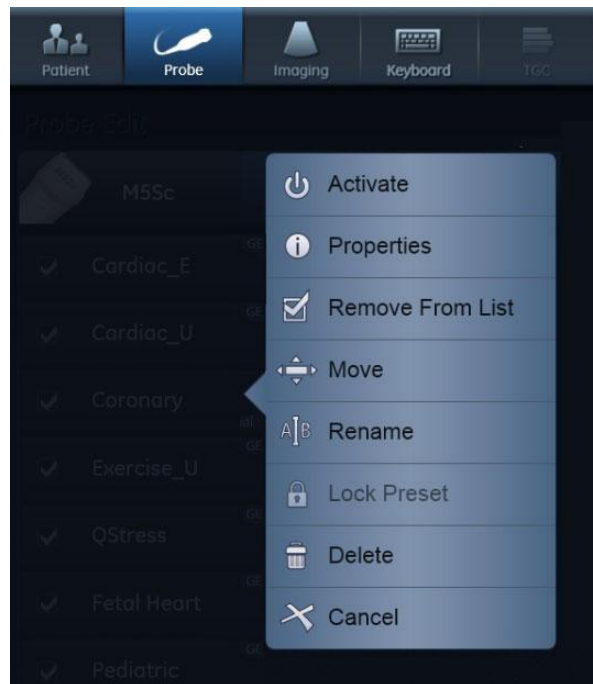

Figure 12-83. The Preset config menu
3. Press an application preset to adjust. The *Preset config* menu is displayed (Figure 12-83).
A preset configuration menu appears (Figure 12-83).
The *Preset config* menu is displayed (see Figure 12-83 on *page 12-100*).